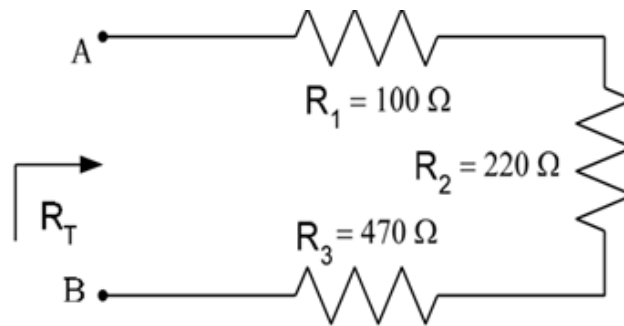

Figure 2.2
2. Construct the circuit as shown in Fig 2.2.